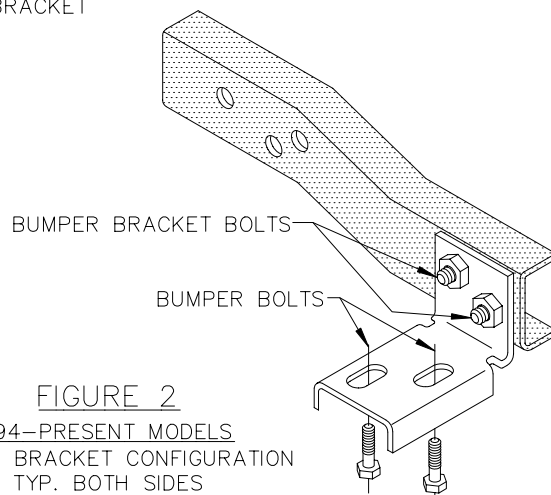

FIGURE 2
1994-PRESENT MODELS. BUMPER IS ATTACHED TO BUMPER BRACKETS BY TWO (2) VERTICAL BOLTS. SEE FIGURE 2.